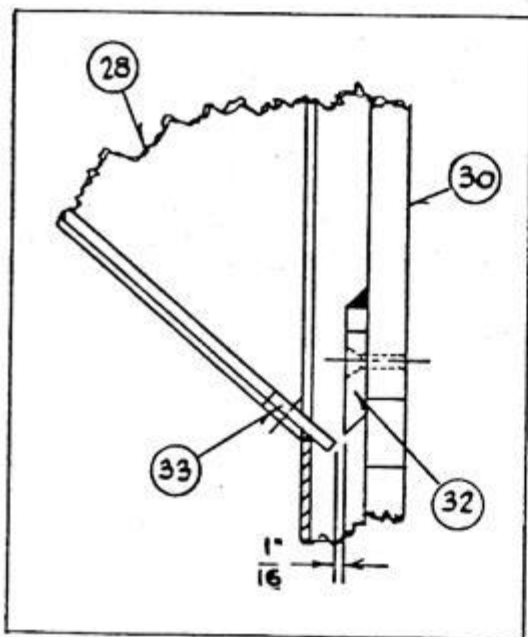
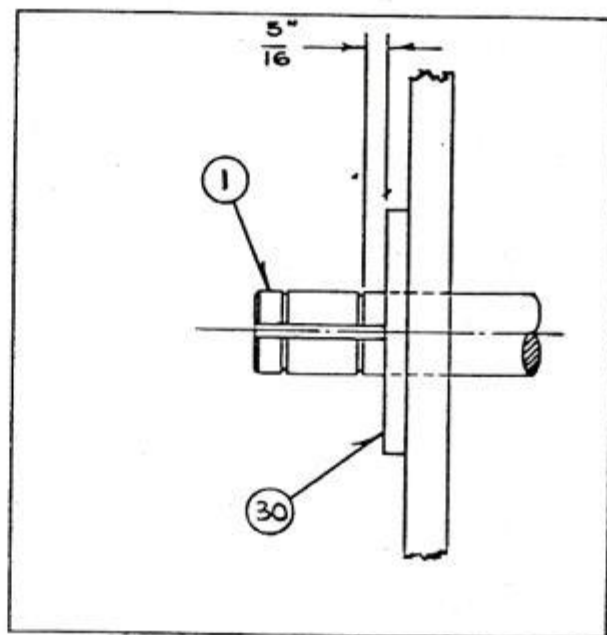

FIGURE 1
FIGURE 2
- (1) Lubricate the two rotor bearings before operating and after every 10 hours of operation with multi-purpose bearing lubricant. Also check the bearing collar set screws regularly to be sure they are tight.
- (2) When not in use, your shredder or chipper should be stored out of reach of children.
- (3) When the hard steel hammers become dull or round on the cutting or leading edge, they may be reversed. First remove the cover plates (item No. 18 shown on Dwg. No. 900-0090) and the hammer rod (900-0085) access holes are revealed. One hammer rod at a time can be removed through this side hole and the hammers reversed as the rotor is reassembled. Each rod is held in place by a 3/16 x 1 1/4 cotter pin. Install new pins. Extreme care must be taken to reinstall the spacers (Item No. 11, 12, and 13) in exactly the same order as shown on the drawing. We emphasize this point. The spacers and hammers must be reinstalled in exactly their original order as shown on Dwg. 900-0090.
- (4) When the steel chipping knife 900-0076 needs replacing or sharpening, rotate the chipper disc until the three cap screws 5/16" holding the blade are under the three knock out seals (older chippers) or access panel (new chippers). Using a 5/16" allen wrench, loosen (do not remove) the three screws. Rotate knife to throat area and remove screws and knife. When you install the knife be certain to use loc-tite material on the threads so they will not come loose.
- (5) Care must be exercised when sharpening the blade to maintain the correct bevel and a straight cutting edge. When you install a knife, the clearance between knife and wear plate 900-0075 must be checked. This clearance or gap should be minimum 3/64" maximum 1/16". See figure 1. To adjust this clearance, loosen the three 1/4" flathead bolts which are located on the outside of the chipper wear plate, next to the chipper side plate. (Key 42, Dwg. No. 900-0091, page 7). Move the wear plate in or out accordingly and tighten the 1/4" nuts securely.
- (6) Note, if the gap between wear plate and knife is excessive, you will have vibration when chipping and the blade will seem to be dull.
- (7) If at any time it becomes necessary to disassemble the chipper for repairs, the chipping disc (900-0016) must be installed in exactly its correct position on the shaft. Refer to Fig. 2 for the distance between inside snap ring and disc hub.